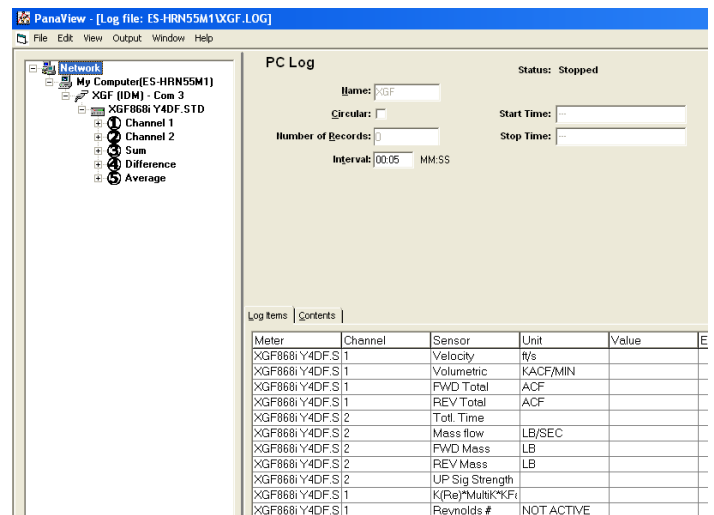

Figure 21: Typical log contents
- Click on the *contents* tab (see *Figure 21 on page 33*) for a list of all the data points logged to date for the parameter currently highlighted on the *log items* tab.
Remember that only two parameters per channel may be graphed, and that the same two parameters must be graphed for each channel of a multi-channel graph display. When you have finished viewing the graph, click on the [Close] option button to close the graph window and leave the log running. To review log details, click on the *contents* tab. The window now appears similar to *Figure 21* below.
- Click on the *log items* tab (see *Figure 21* on page 33) for a list of the parameters specified for logging.
- Click on the *contents* tab (see *Figure 21* on page 33) for a list of all the data points logged to date for the parameter currently highlighted on the log items tab.